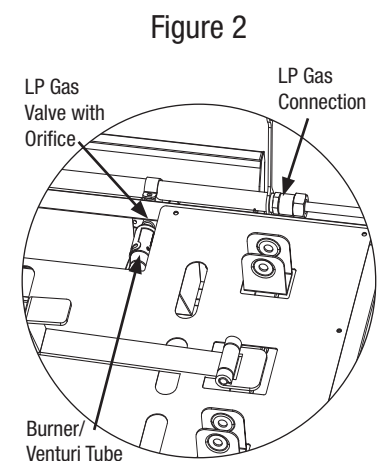

Figure 2
3. Make sure the burner/venturi tube fits over the orifice (Figure 2).
4. Please refer to diagram for proper installation (Figures 2 and 6)